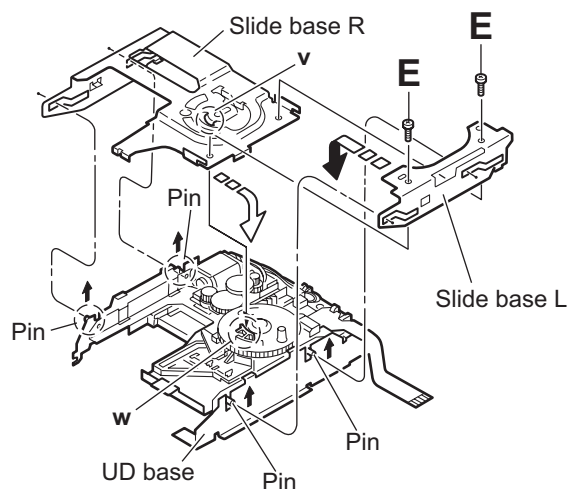

Fig.26
- (12) Reattach the slide base **R** while fitting the two pins on another side of the UD base to the slots of the slide base **R**. (See Figs.26 and 27.)
- (13) Reattach the slide base **L** on the slide base **R** while fitting the two pins on another side of the UD base to the slots of the slide base **L**. Make sure the two slots of the slide base **L** are fitted to the two joints **g** and tighten the two screws **E**. (See Figs.26 and 28.)